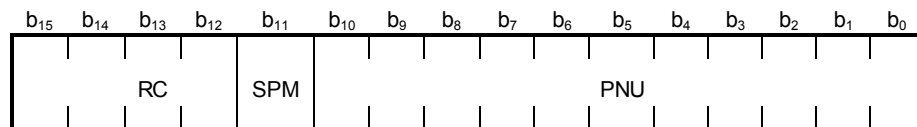

Figure 4 PCA word
*To start the drive the profibus state machine must be shifted in a correct way. This may be done in two steps. First the control word should be set to 04 06 (Enter *Ready to switch-on state*) and then to 04 7F (Enter *Operating state*). Refer to the state diagram in Figure 4.